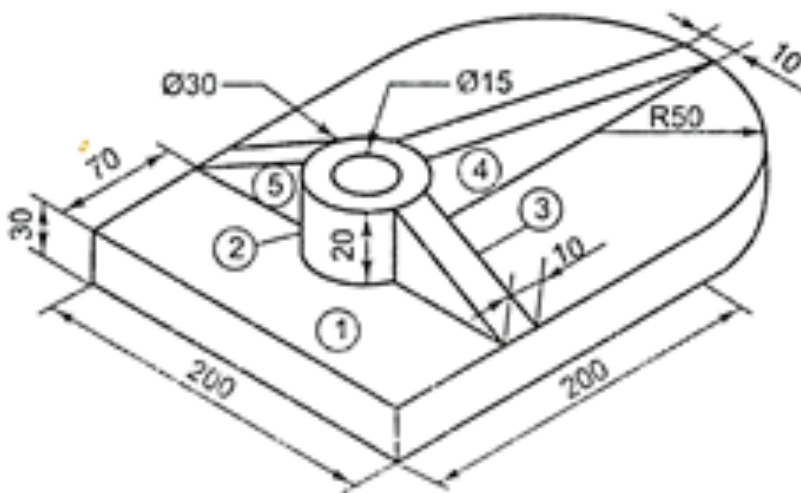

Fig. No. 2.b
- Fig. No. 2.b. shows a component that is to be fabricated by welding different components marked as 1, 2, ... 5. Draw its orthographic views with welding symbol by first angle orthographic Projection method. Joints for tapered plates 3, 4, and 5 are to be made using fillet welds of throat size 6 mm. Parts 1 and 2 are to be welded all around by a single V groove of depth 5 mm with convex surface. [6]